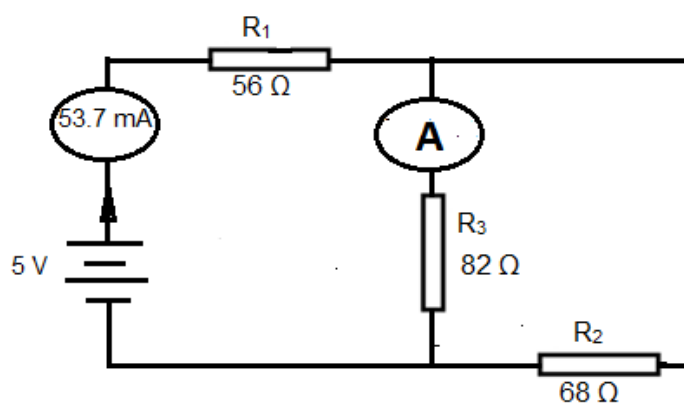

FIGURE 3.1: RESISTOR COMBINATION CIRCUIT
- 3.8 A resistor combination circuit is shown in Figure 3.1.